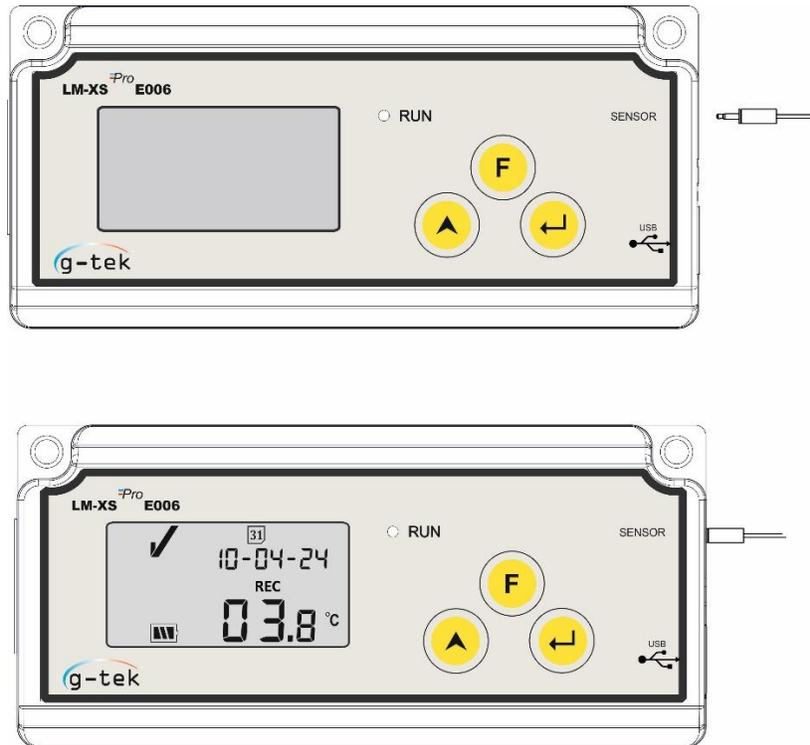

Figure 4 External Sensor jack Inserted
- Sensor will be inserted in the LM-XS^{Pro} E006 data logger using 4 contact 3.50 mm Stereo jack connector. Connect sensor cable as per figure 4.